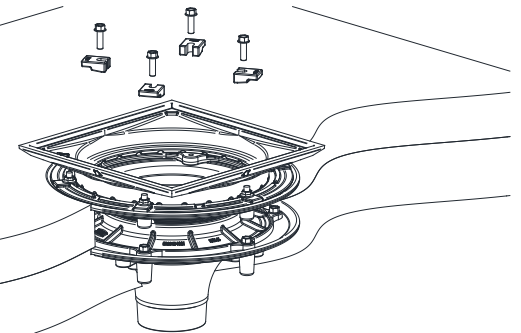

Fig. 3
Step 12 – Place the four clamp dogs on top of the bottom rim of the frame and align the slots in each clamp dog with the tappings in the clamping collar. Insert a bolt through each clamp dog slot and thread into the clamping collar. (Fig. 3) Hand-tighten the bolts until final alignment adjustments are made to the frame. Once the frame is in proper position, tighten the four clamp dog bolts down to a torque of 20-25 ft-lbs.